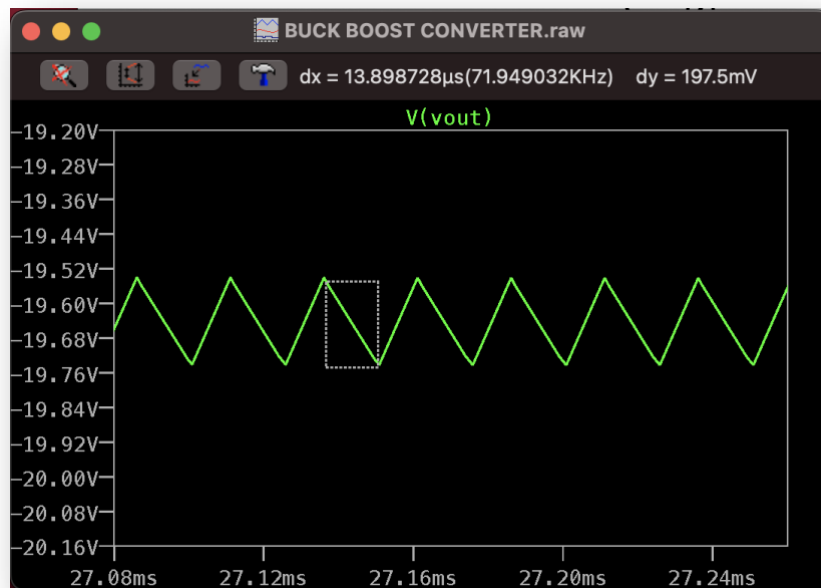

Figure 5: Voltage Ripple
- For a voltage ripple of 0.1V at the output, we have calculated the required capacitance to be $250\mu F$. Figure 5 below shows the result of the simulation, wherein the peak-to-peak voltage ripple is around 0.2 V which corresponds to 0.1 peak voltage ripple.